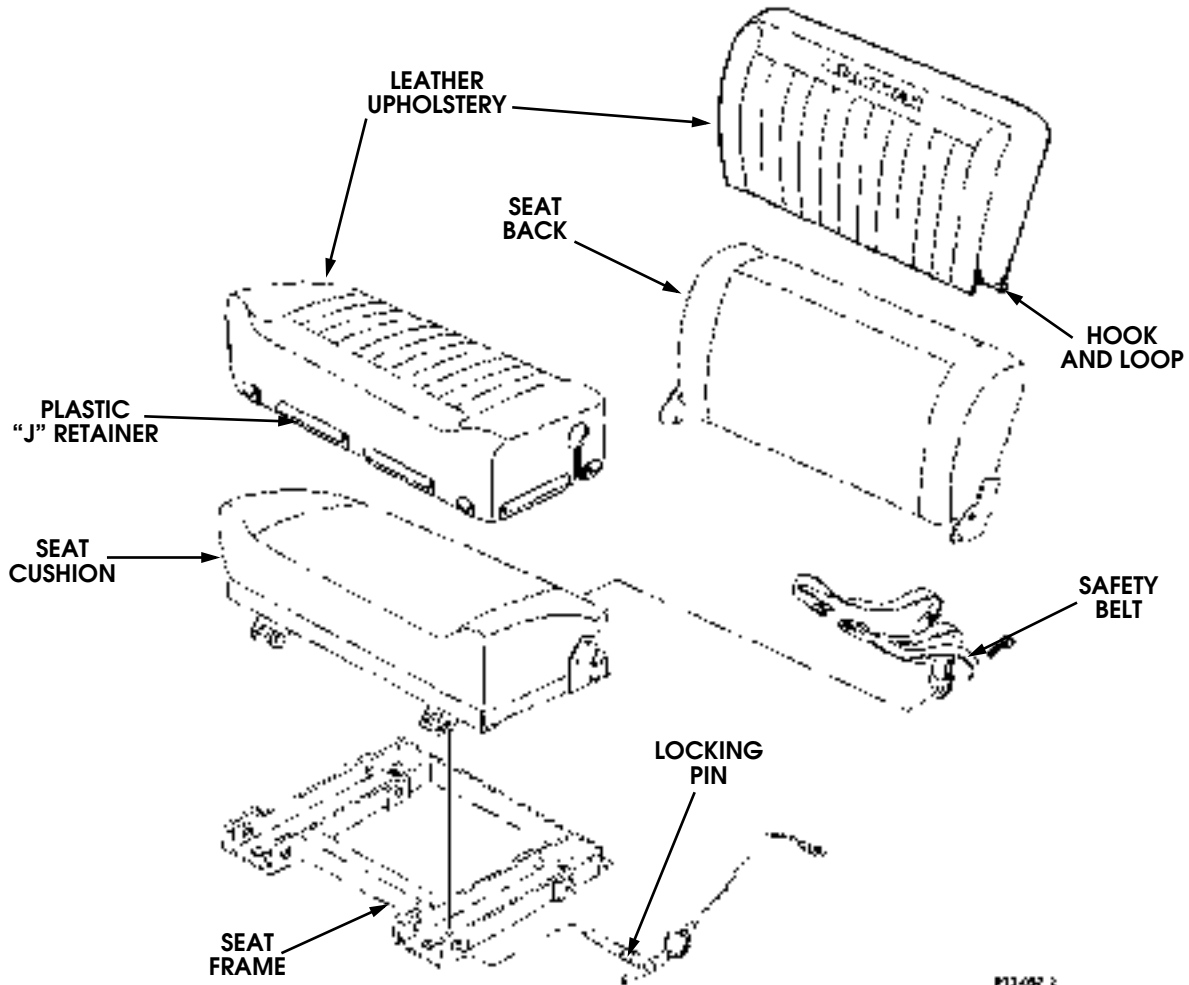

Figure 13-63: Auxiliary Seat Cover Installation.
1. Remove the four locking pins securing the auxiliary seat to the seat frame (See Figure 13-63).